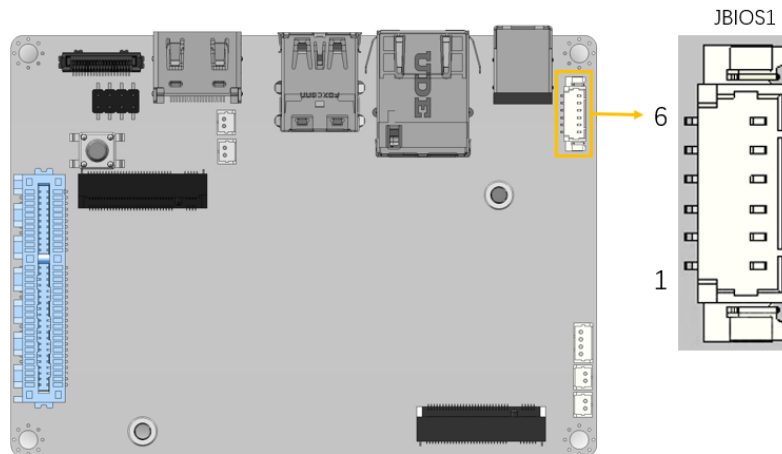

Figure 3-16: Flash SPI ROM Connector Location
- CN Location:** See **Figure 3-16**